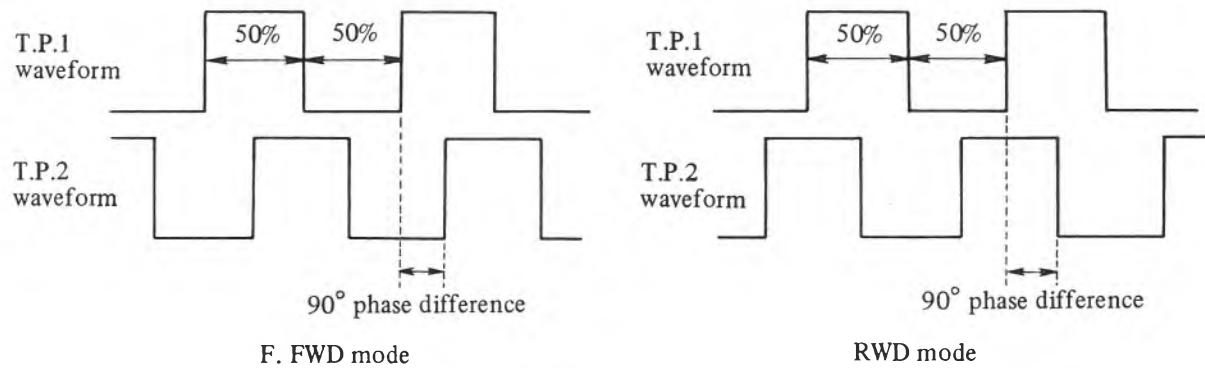

Fig. 4.10
- 2) Rotate the R300 (H) fully CCW from the parts side of the PCB.
- 5) Adjust R302 on the SYSTEM CONTROL PCB for a 50% duty of the testpoint 1 waveform (shown in Fig. 4.10)
- 7) Adjust R303 on the SYSTEM CONTROL PCB for a 50% duty of the test point 2 waveform. (shown in Fig. 4.10)
- 8) Confirm that there is 90° (degree) phase difference between test point 1 waveform and test point 2 wave form during the F. FWD or RWD mode. (shown in Fig. 4.10)